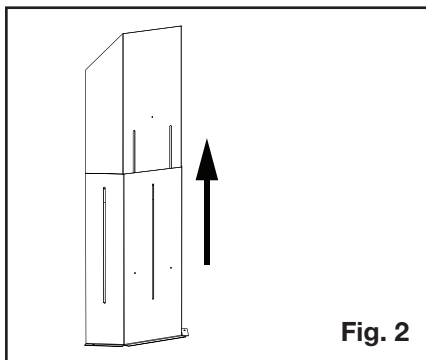

Fig. 2
2. Adjust the vent shield to its maximum vertical (Figure 2).